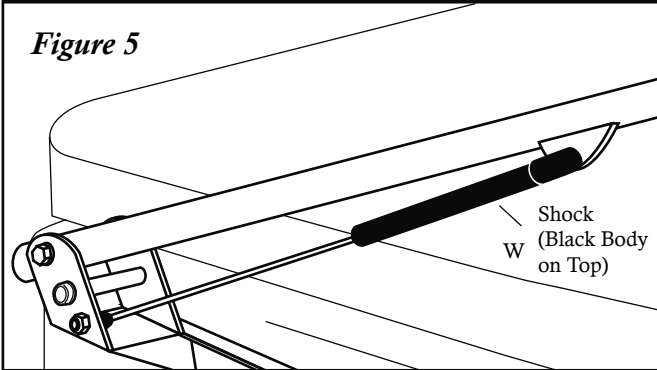

Figure 6
Remove the (2) green "Attention Installer" stickers on the underside of the Smartop. Using the #10 self-tapping screws, fasten the support arms to the internal tube in the center of the cover through the holes on the underside of the cover (see Fig. 6). Cover the (3) holes on either side of the Smartop using the supplied black foam oval covers. **Note: Attach the black foam oval covers in the same position the green "Attention Installer" stickers were installed on the Smartop originally.**